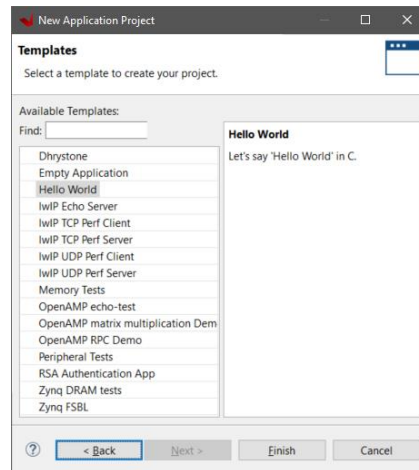

Figure 29
7. In the **Templates** page, select **Hello World** from the list of **Available Templates:** and click **Finish** (Figure 29)